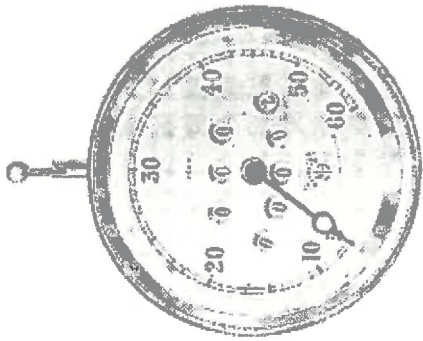

Figure 1.— Type No. AA1.
- Type AA1. Flush fitting model ... (Fig. 1)